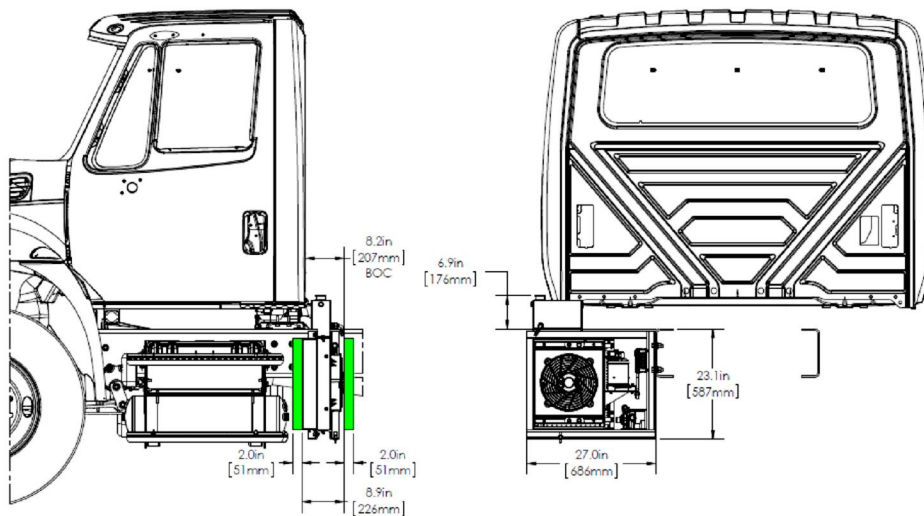

Figure 7. Frame-mounted cooling system
- Standard cooling system location is on the frame, streetside (Figure 7).
- Areas shown in green below (Figures 7 and 8) represent installation clearance required for air flow.